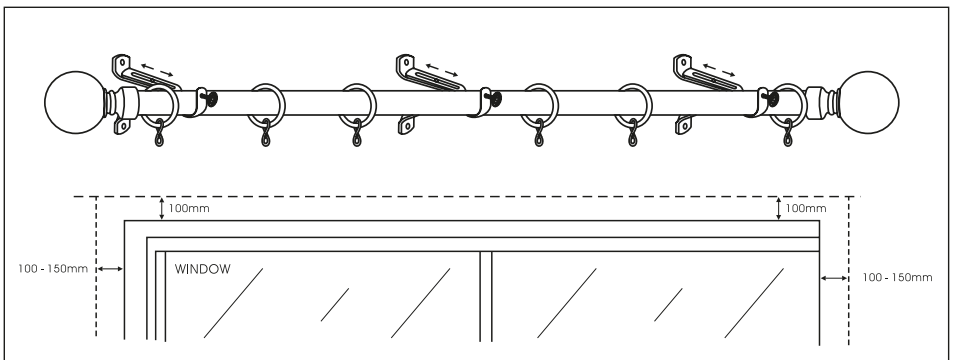

Fig. 1
- 2** Mark fixing positions for brackets ensuring that they are level (see Fig 1).